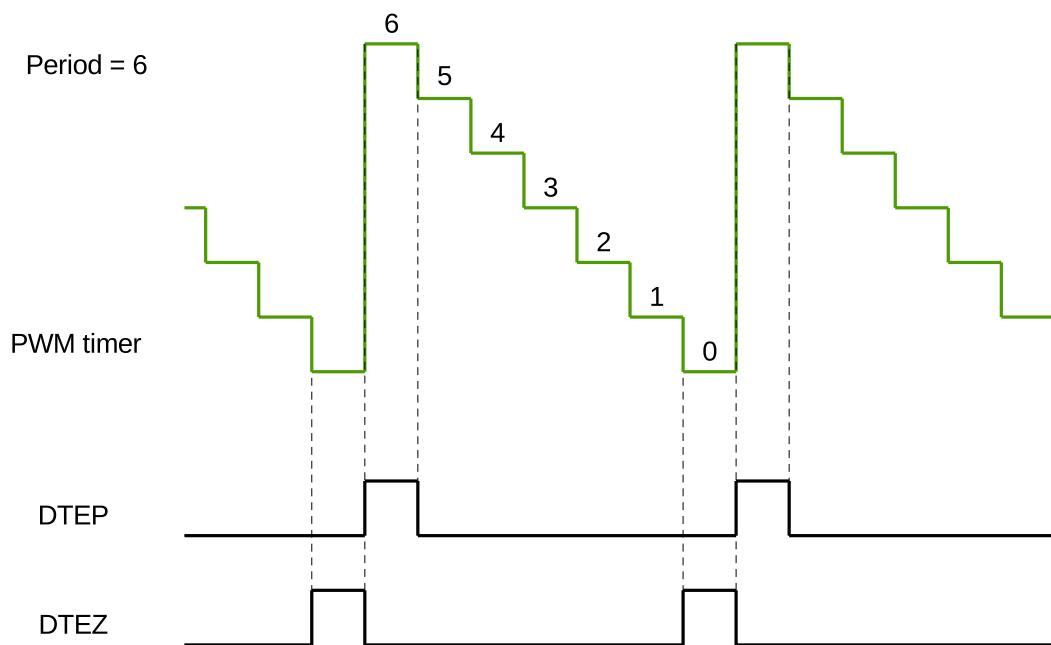

Figure 29.3-11. DTEP and DTEZ Generation in Count-Down Mode
2. DTEP and DTEZ do not happen simultaneously. When the PWM timer is in count-down mode, DTEZ will always happen one cycle earlier than DTEP, as demonstrated in Figure 29.3-11, so their action on PWM signals will not interrupt each other. When the PWM timer is in count-up-down mode, DTEZ will not occur.